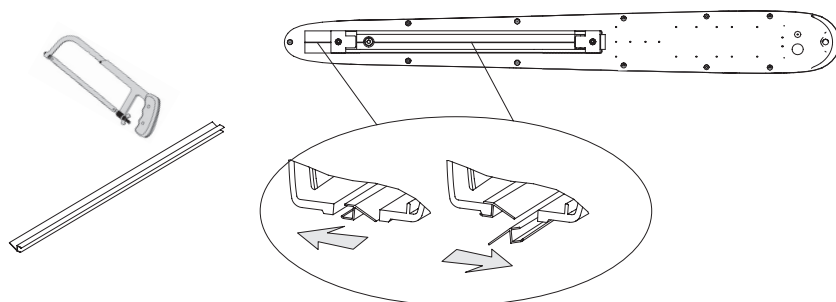

Figure 17. Mounting a guard bar
- Fit the guard bar to the edge of the drive groove; use the remaining bar for mounting to the exposed groove portions (fig. 17).